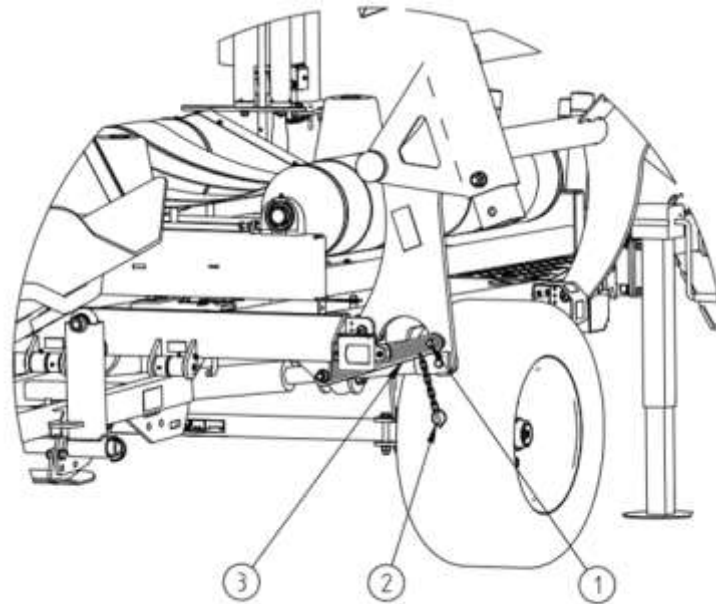

Figure 20 Mechanical lift lock
The lift arm is lifted and locked mechanically in the transport position, see Figure 20. Before starting work in the field, remove the locking flat bar (3) from the bale lift (Figure 20) by removing the locking pin (2) from the pin (1) to remove the flat bar and put it securely in the working position (Figure 21).
When driving to the work site, secure the lift arm with a flat bar and a locking pin, see Figure 20.